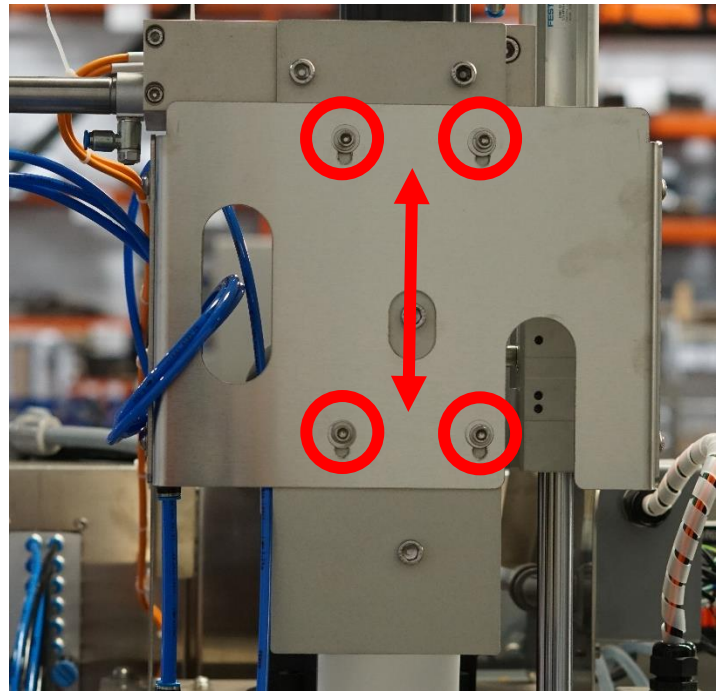

Figure 24 - Lid Slide Height Adjustment Bolts
1. For lid slide height adjustments there are 4 socket head cap screws on the backside of the lid slide that will allow you to slide the lid slide up and down on slots. You'll need a 3/16" hex wrench for these. (Figure 24)